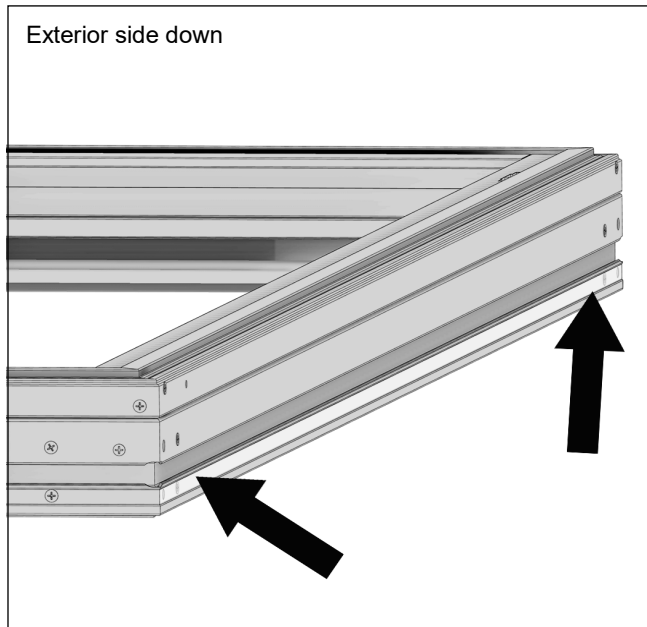
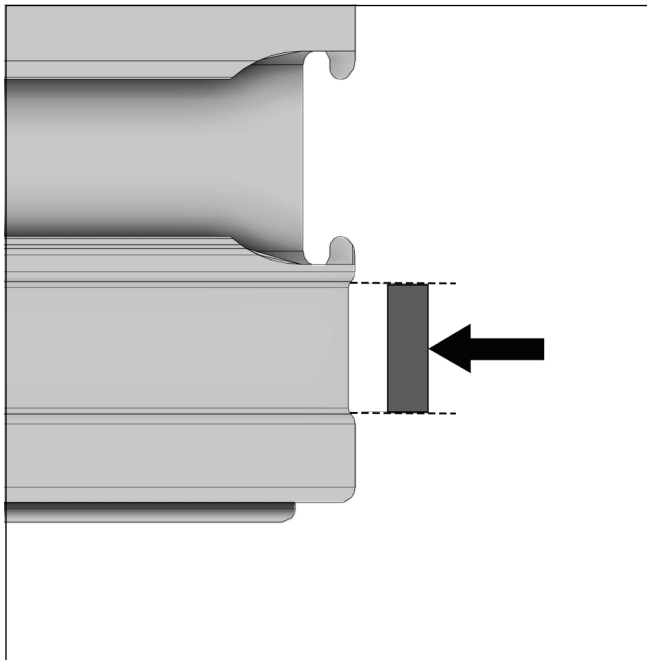

Figure 28 Clean recess
Figure 29 Apply tape
3. Clean/wipe area and apply tape centered in recess, extending past corner of frame (1/4" – 1/2"). See Figure 28 and Figure 29. Image for illustrative purposes only, your unit may include nailing fin.